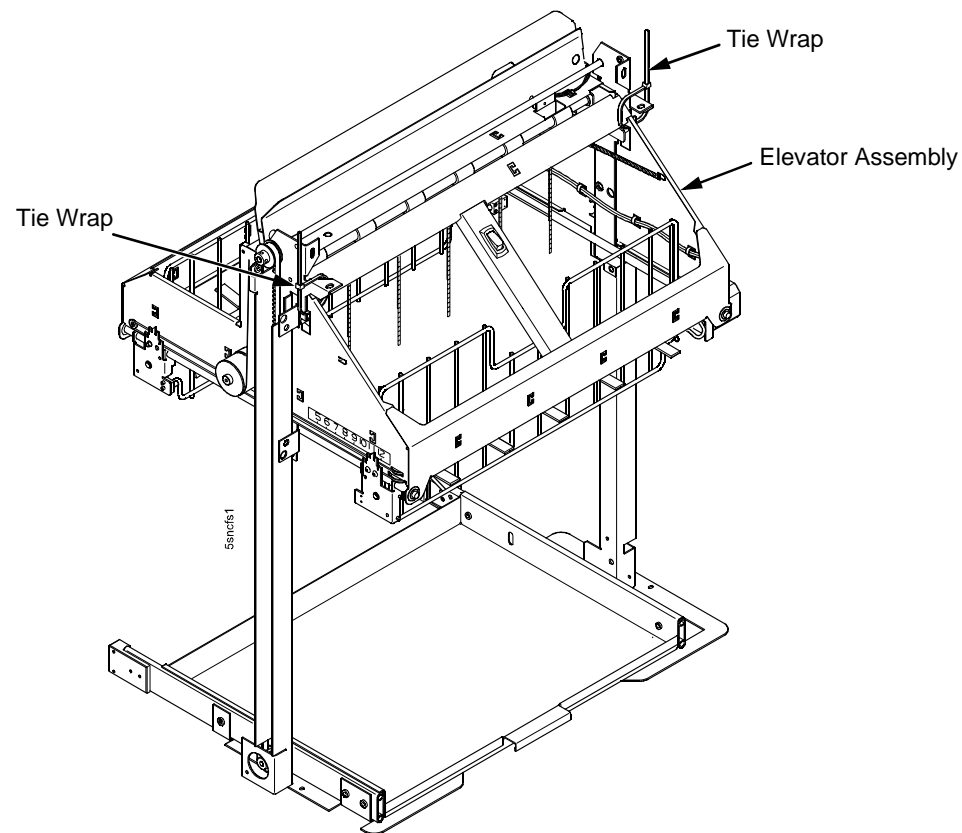

Figure 98. This figure shows how to tie the elevator assembly preparatory to removing the constant force spring.
2. Raise the elevator assembly to within approximately 1/4 inch (0.6 cm) of its highest position. Secure it to the vertical rails using tie wraps or string. (Figure 98.)
2. Raise the elevator assembly to its highest position and secure it to the vertical rails using tie wraps or string. (Figure 98, page 547.)